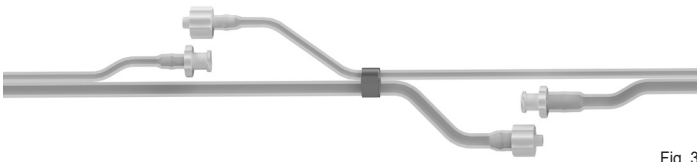

Fig. 3
- For sterilization the joints must be opened (fig. 3).